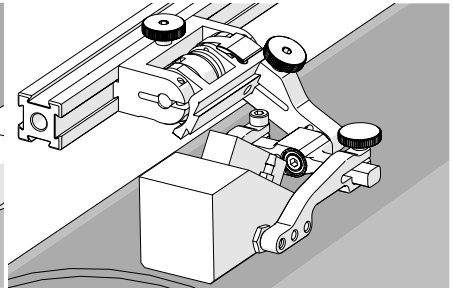

Fig. 72 - Spring-loaded scan position
4. Gently lower probe holder and wedge to the scanning surface (Fig. 72).